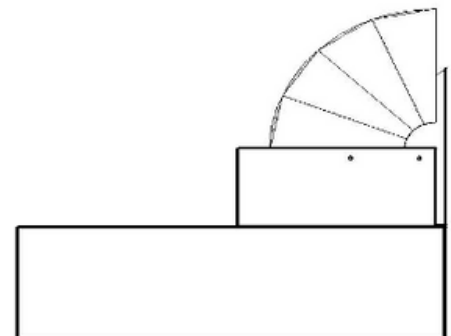

FIGURE 2
*The T7200 Hood is extremely versatile. You can easily convert the Hood to be rear discharge by attaching a 10" round elbow to the Hood start collar (see Fig. 2). DO NOT USE flex duct as it can create turbulence and diminish the hood's performance. Use a high quality foil duct tape to seal the connection and avoid vibration. Be sure to mount the Hood with adequate clearance from ceiling to allow for height of elbow used for rear discharge. These 10" elbows can be purchased at many Home and Hardware stores for a nominal cost.